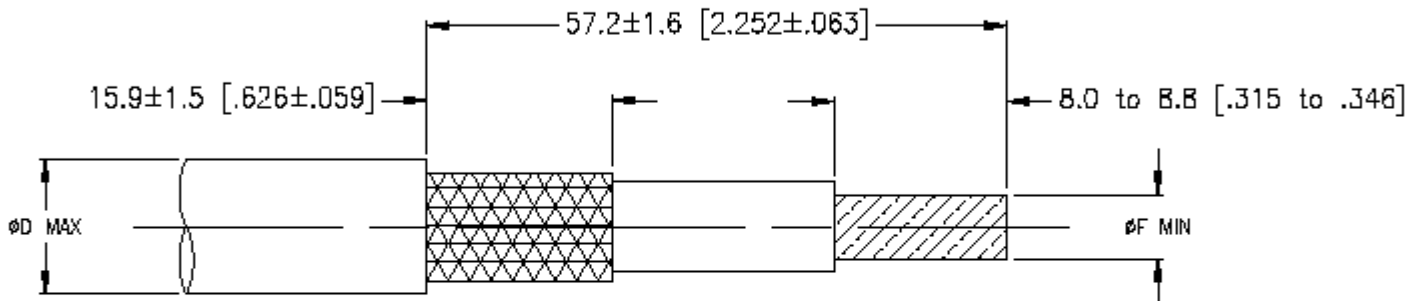

Figure 1:
- b) Prepare both cables as shown in Figure 1. All center conductors are prepared the same regardless of size or number.